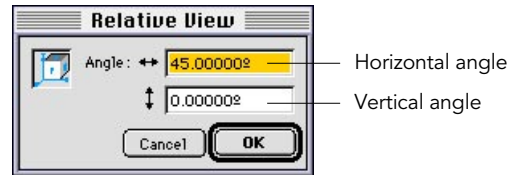

Fig. 346 Defining a Relative View numerically
2. Type the Relative View's horizontal and vertical angles in the text boxes (fig. 346), and then Click OK.